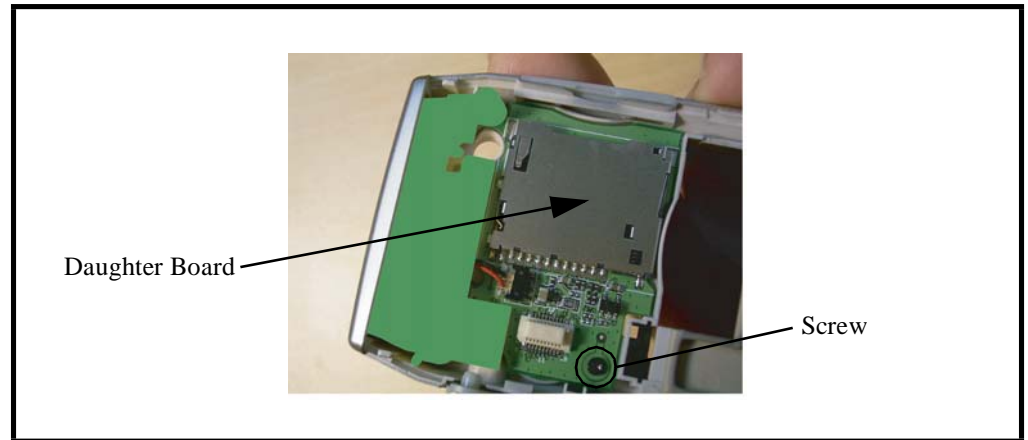

Figure 21. Removing the Daughter Board
4. Disconnect the daughter board from the rear housing cover by removing the screw as shown in Figure 21.